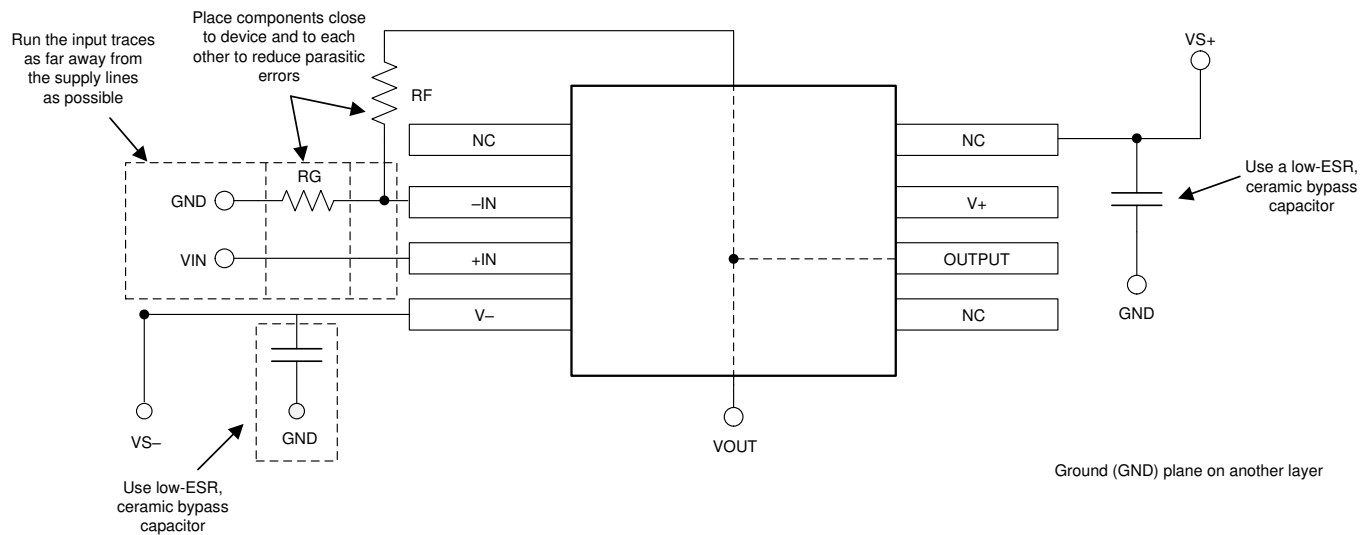

图 56. Operational Amplifier Board Layout for Noninverting Configuration
- Place the external components as close to the device as possible. As illustrated in Figure 56, keeping RF and RG close to the inverting input minimizes parasitic capacitance.